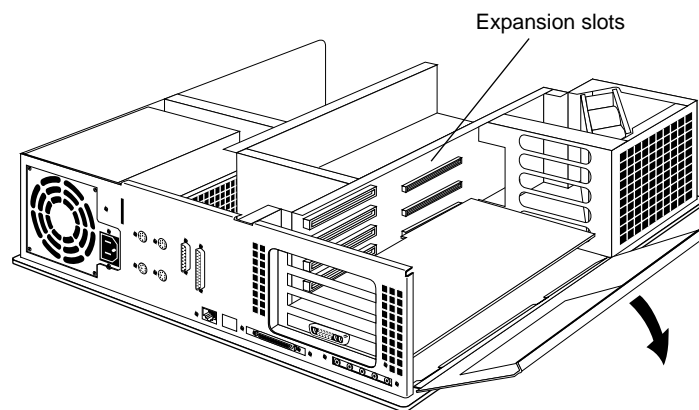

Figure 8-8 Opening the Metal Panel in Front of the Expansion Slots
3. Open the metal panel in front of the expansion slots by pulling up on the panel and lowering it, as shown in Figure 8-8.